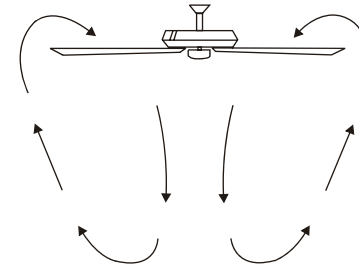

Fig. 28
**Warm Weather Operation:** “Forward” (fan rotates counter clockwise) A downward airflow creates a cooling effect as shown in **Fig. 28**. This allows you to set your air conditioner on a warmer setting without affecting your general comfort.